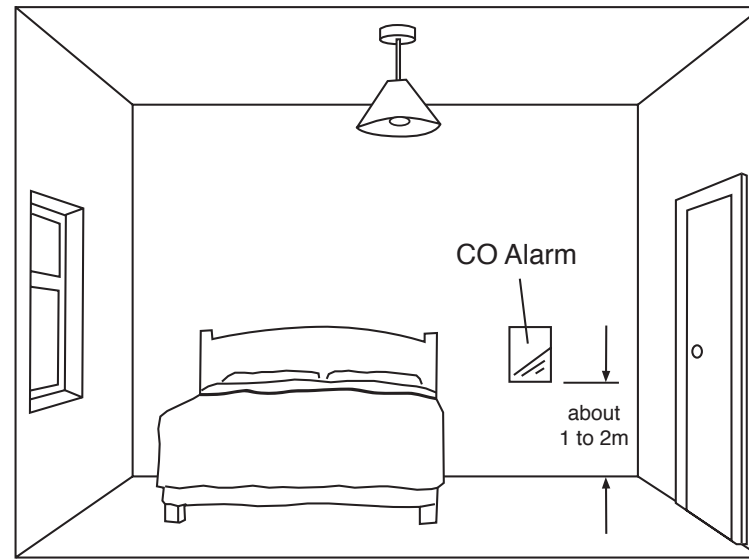

Figure 4. Location in bedroom & rooms remote from the appliance (i.e. at breathing level)
3.32 If locating the CO alarm in a bedroom or in rooms remote from a fuel burning appliance (see figure 4)